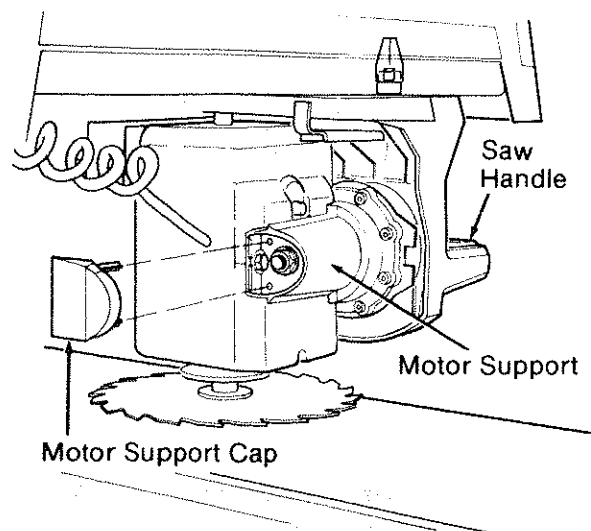

Fig. 72
18. Snap the *motor support cap* into the back of the *motor support*. The *cap* is in the loose parts bag. (Figure 72)